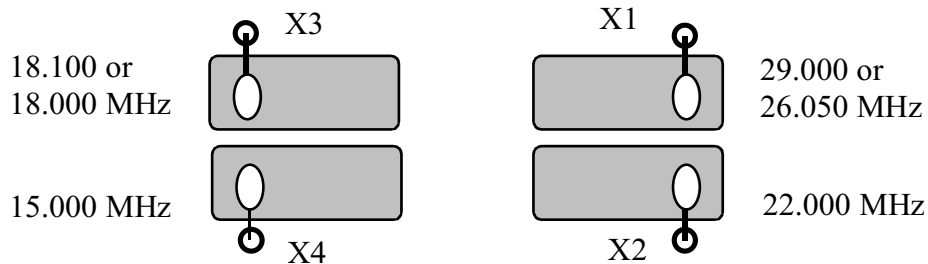

Figure 2
Install the four crystals at X1-X4, but do not solder yet (crystal locations are shown in Figure 2). Be sure to use the correct crystals at X1 and X3 based on your selections in the two previous steps. Orient the crystals so that the marked frequencies can be read on all four. Bend the leads to hold them in place.
- Referring to Figure 2, insert bare wires into the grounding holes provided near each crystal. Fold each wire over the top of the crystal and solder it on top. Keep soldering time below 5 seconds at a time; if it takes longer, your iron may not be hot enough, or your iron tip may not be making good contact with the crystal can. Solder and trim the wires on the bottom of the board.